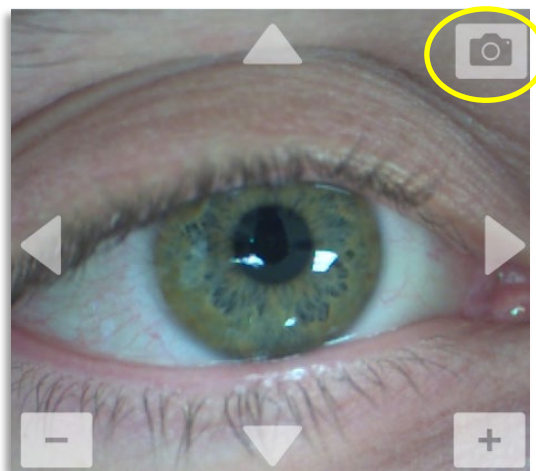

Figure 3-31. Capturing Images
- To capture an image, select the camera button in the top right hand corner of the eye image as shown in Figure 3-31.